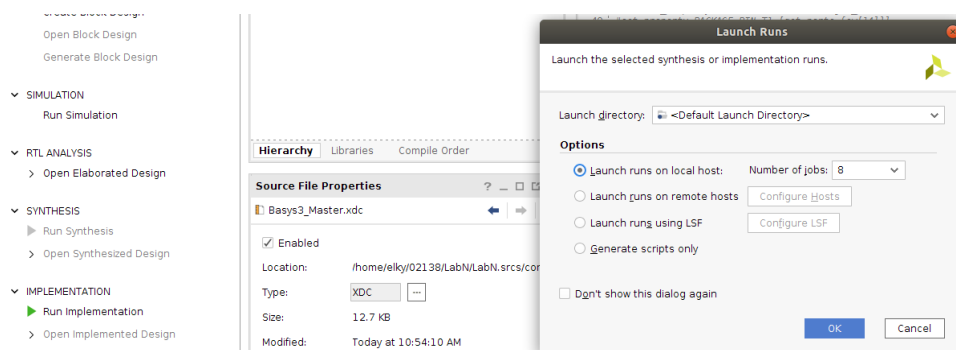

Figure 26 Run synthesis
1. To synthesize the developed design, click on “Run Synthesis” under “Flow Navigator” to initiate the synthesis process. Leave the default values on the window in Figure 26 and press “OK”.